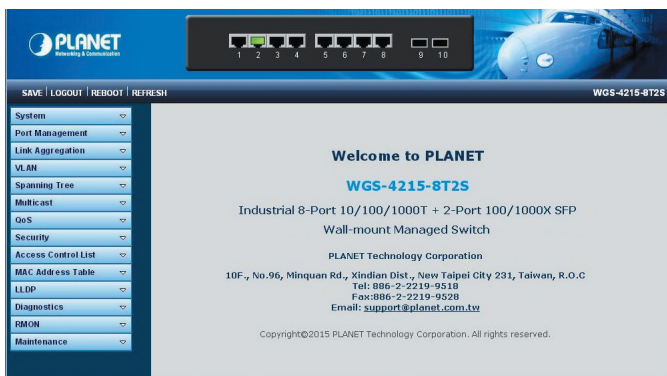

Figure 5-3: Web Main Screen of Wall-mount Managed Switch
3. After entering the password, the main screen appears as Figure 5-3 shows.